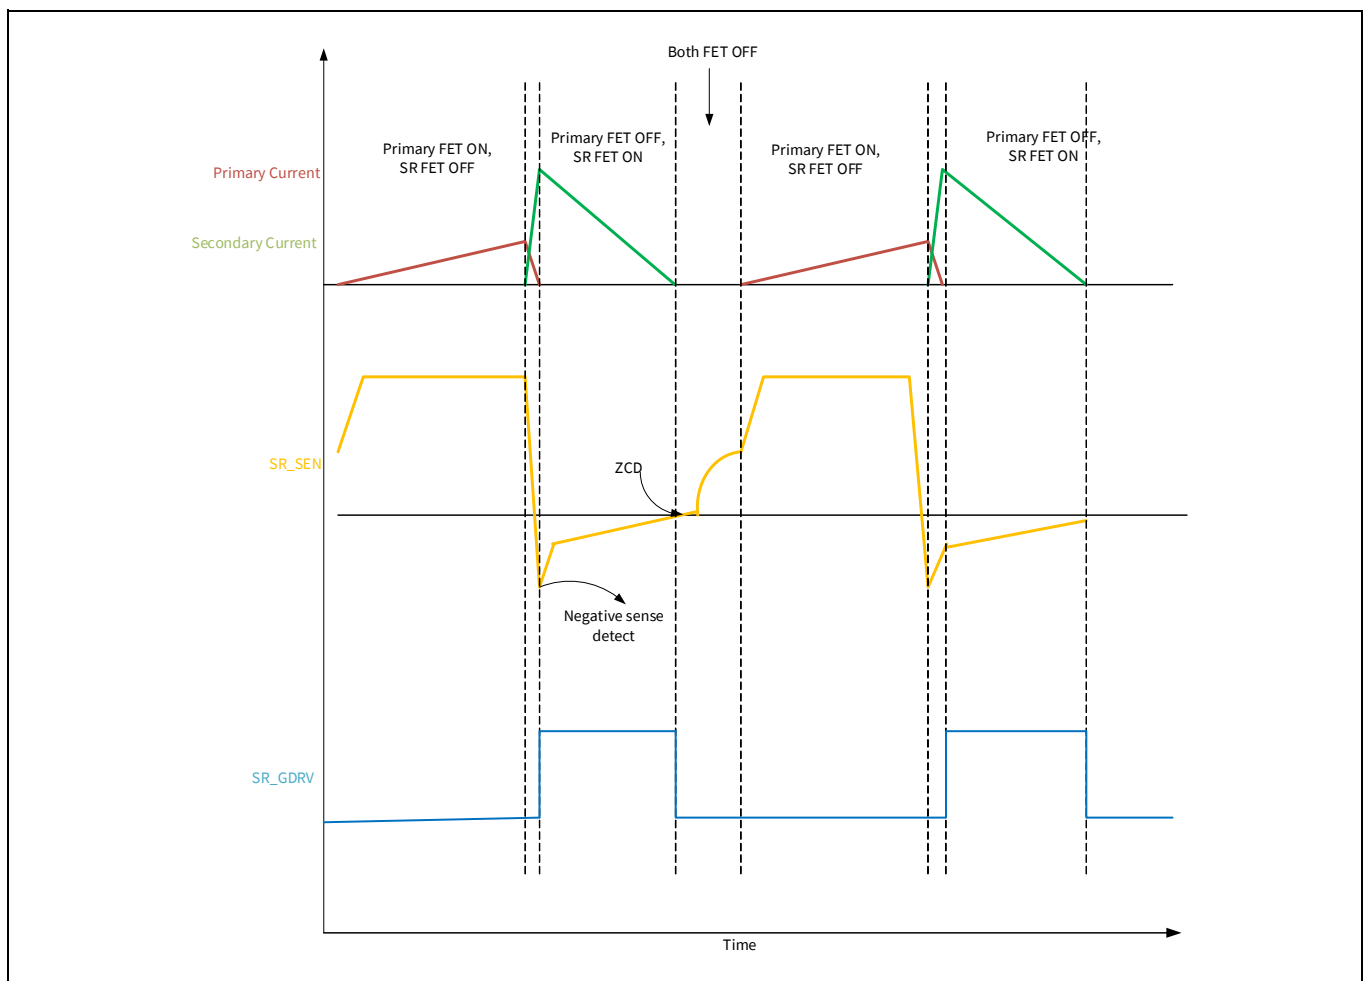
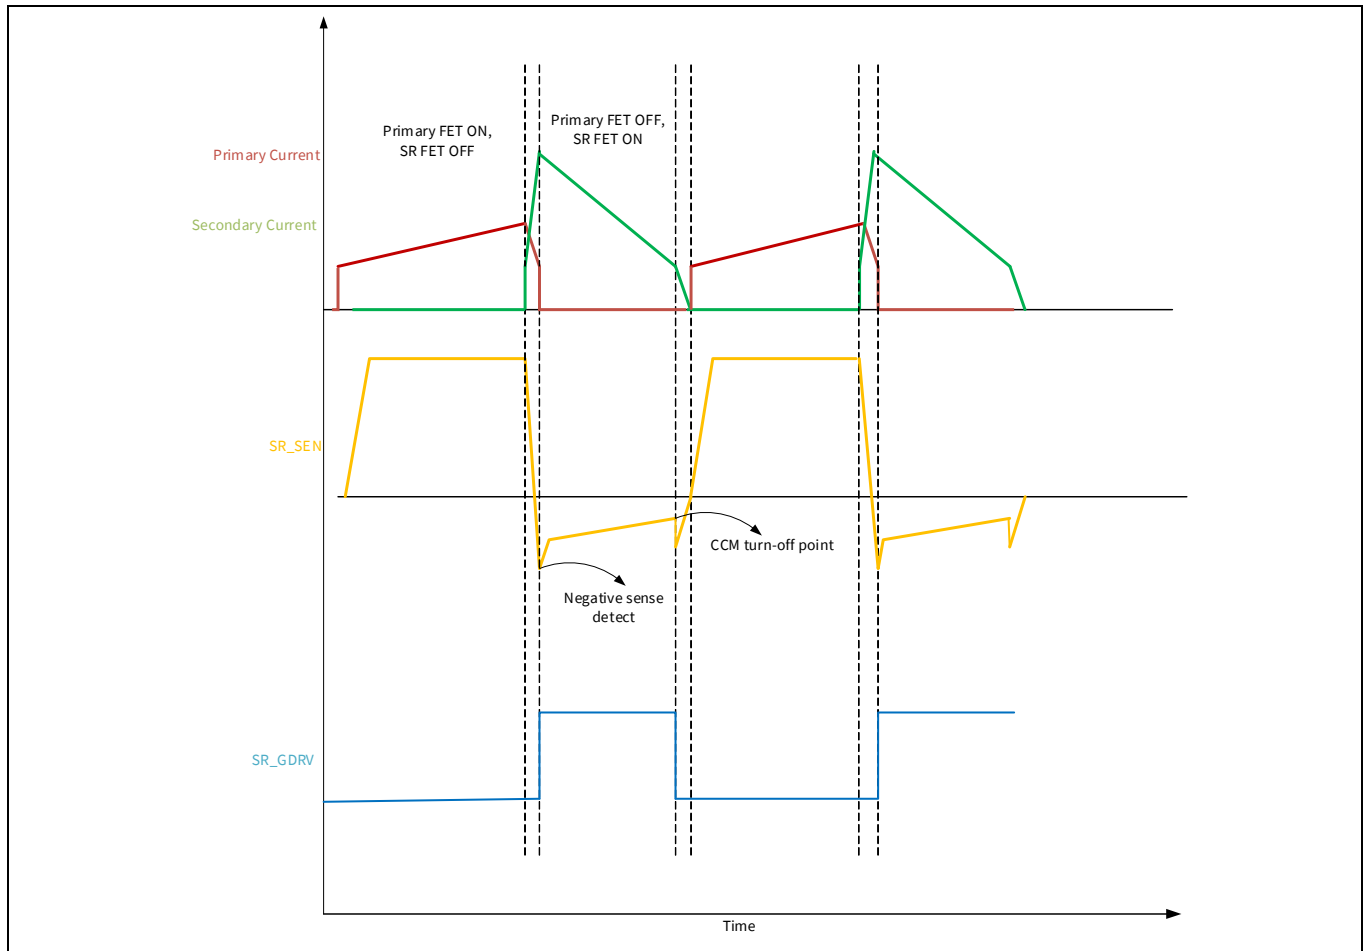

Figure 3 SR_SEN and SR_GDRV in CrCM mode
Figure 5 SR_SEN and SR_GDRV in CCM mode
PAG2S-AC supports synchronous rectification (SR) in both DCM and CCM modes. The SR sense block supports negative sense detect and ZCD. **Figure 3** through **Figure 5** show the SR_GDRV functionality in CrCM, valley switching, and CCM modes. The SR controller has a turn-on propagation delay of 40 ns (typ) and a turn-off propagation delay of 25 ns (typ).